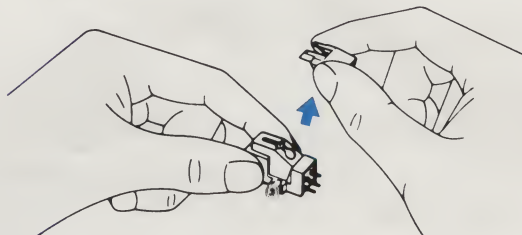

Fig. 9
- 2 **Replacing the stylus:** To assure distortion-free reproduction, replace the diamond stylus after 1000/2000 LP plays. To remove the old stylus, pull out the stylus assembly as in Fig. 9. Replace with a new stylus (available from Fisher Service Center).